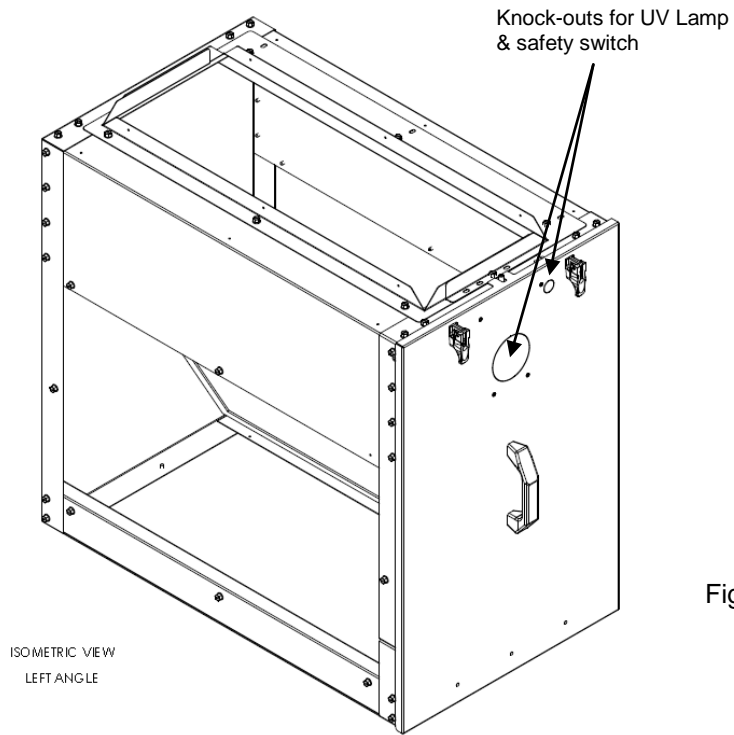

Figure 1
- 3) Remove the knock-outs on the RS4 cabinet door for UV lamp and safety switch (fig 1).